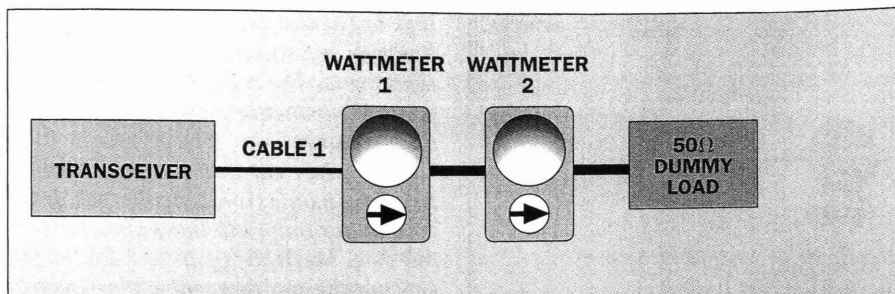
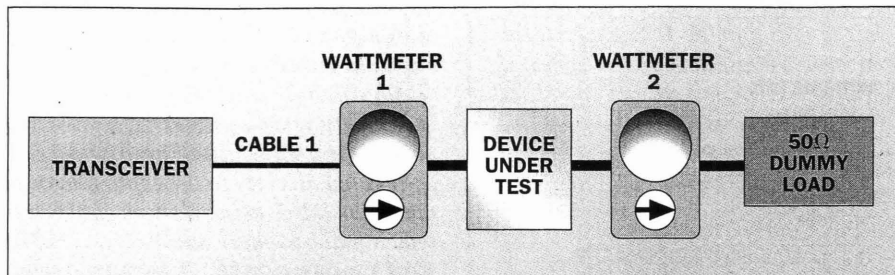

Figure 2A. This setup is used to establish the calibration of the wattmeters and to determine a correction factor.
Figure 2B. This setup is used to determine the insertion loss of the filter or other DUT (device under test).
TX RX Systems recommends a two-wattmeter, two-step method that eliminates most of these problems. The arrangement in Figure 2A (see page 49) is first used to obtain wattmeter read-
ings to correct for test equipment insertion loss and wattmeter relative calibration errors. The setup in Figure 2B (see page 49) is then used to measure input and output power.
In Figure 2B, wattmeters 1 and 2 are connected directly to the input and output of the DUT, using a short cable or a type N male-to-male union (UG-57B/U, TX RX part no. 8-5857). It may also be necessary to use a type N, 90° male-to-female adapter (UG-27C/U, TX RX part no. 8-5867) to facilitate installation of the wattmeters near the DUT. In Figure 2A, the wattmeters are connected using the same fittings as in Figure 2B, plus an additional type N female-to-female union (UG-29B/U, TX RX part no. 8-5856).
1. Connect wattmeter 1 directly to wattmeter 2 as shown in Figure 2A. Key the transmitter and record the forward power readings, P1 and P2.
2. Unkey the transmitter and insert the DUT between wattmeters 1 and 2, as shown in Figure 2B.
With the equipment arranged as in Figure 2B, insert a -30dB RF sampler on the transmitter output and check the transmitter spectral purity with a spectrum analyzer. Carefully scan a broad frequency range, as spurious outputs may sometimes appear at frequencies far removed from the carrier. If the transmitter is clean, it is safe to conclude that the equipment is out of specification. You should then file a warranty claim.
4. Check the spectral purity of your test transmitter. All spurious products and harmonics must be at least 60dB to 70dB below the carrier when the transmitter is loaded as in Figure 2B.